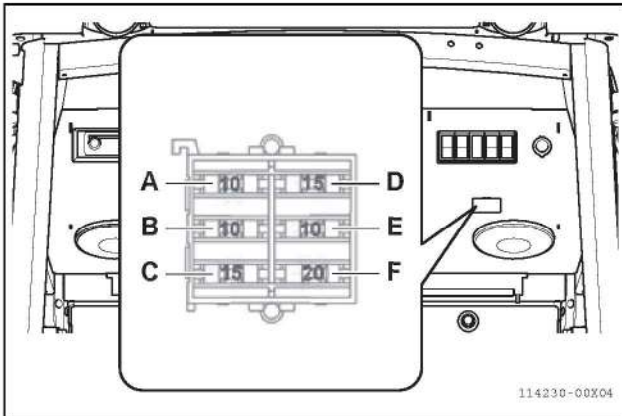

Fig 15-8
- (A) Alternator fuse: 80A
- (B) Main fuse: 40A
- (C) Start/Lamp fuse: 40A
4. Locate the fuses, refer to the illustration shown (It is located on the upper right side of the operator's seat.) (Fig 15-8).